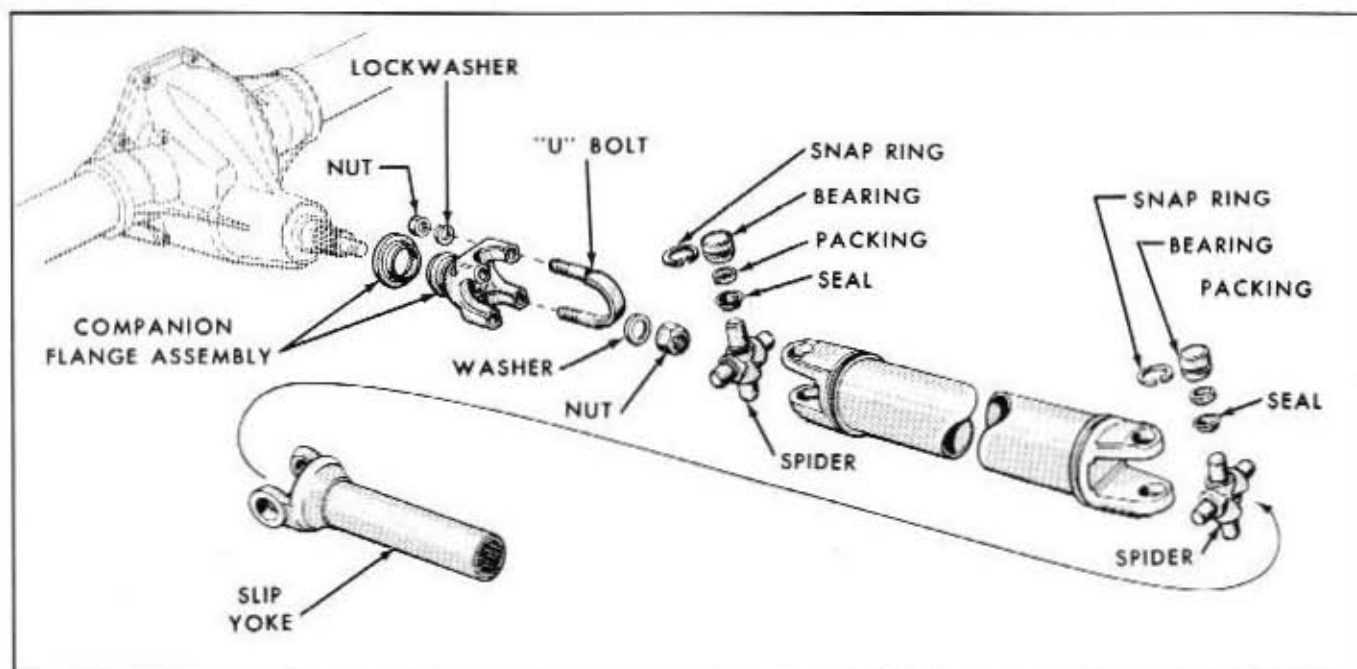

Fig. 4-4—Drive Shaft and Universal Joint Assembly—(60C-805)
through the drive shaft. The drive line is composed of a straight, tubular, balanced drive shaft, the attaching flanges and the universal joints. The rear universal joint is bolted to the companion flange of the drive pinion shaft. The front universal joint and the transmission output shaft are splined. This allows enough drive line movement to compensate for any rotation of the rear axle assembly during acceleration or deceleration. A typical drive shaft assembly is shown in figure 4-4.
1. Refer to figure 4-4. Disconnect the rear "U" joint from the drive pinion flange. Pull the drive shaft toward the rear of the car until the front "U" joint yoke clears the transmission extension housing and output shaft. Install the extension housing seal driver, Tool 7657-G, in the seal to prevent transmission lubricant leakage. Mark the needle bearing cups, spider bearing journals, and universal joint yokes so the parts may be later identified and replaced in their original position if their condition proves satisfactory.